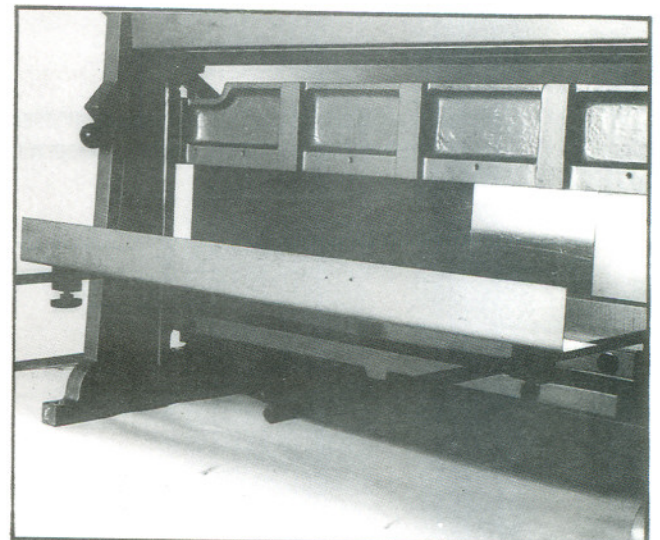

Fig. 6
1. Move the angle iron on the back gauge assembly to the "up" position if not already set that way. (See Fig. 6)